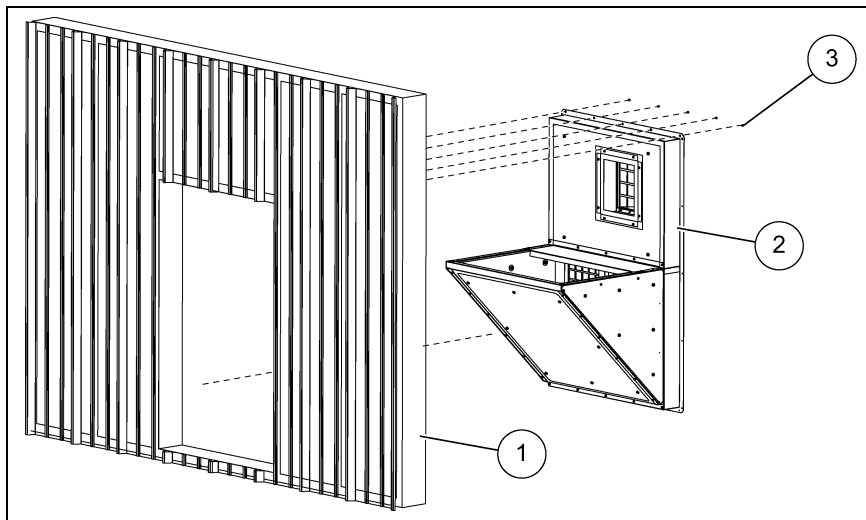

Figure 2
2. Install the duct assembly (2) on the inside wall (1) using #10 x 2" or larger wood screws (3) (not supplied). (See Figure 2.)